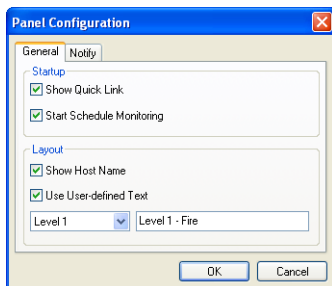

Figure 4-51
- To open the Quick Link window at panel startup, check the **Show Quick Link** option in Figure 4-51.